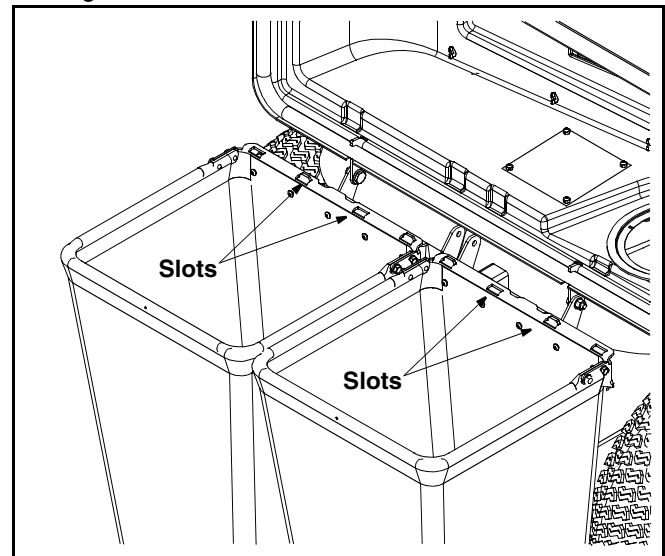

Figure 4
3. Attach the grass bags using the slots as shown in Figure 4.